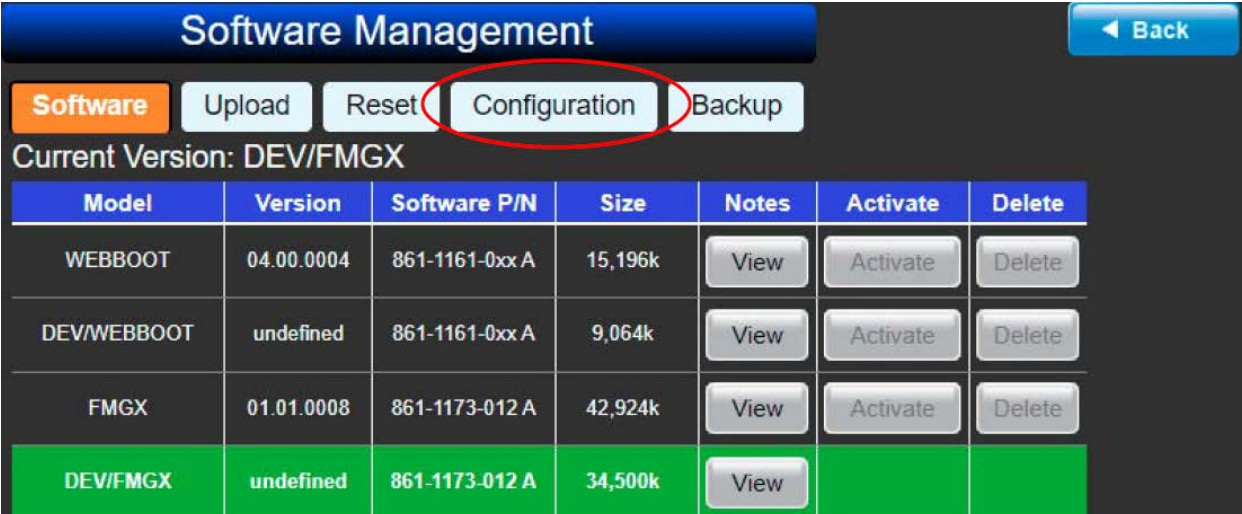
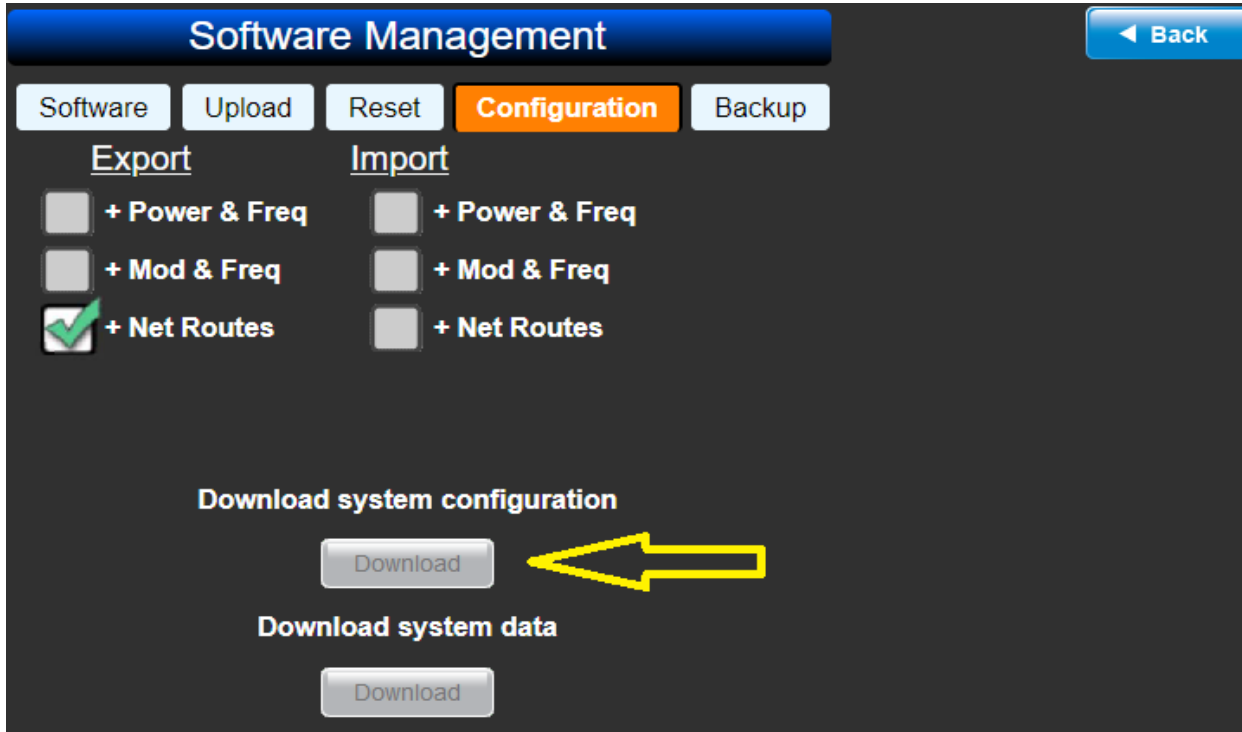

Figure 6-1 GX GUI ISP Screen
Figure 6-2 Export/Import Screen
- STEP 2** Open a web browser and establish a connection, once there is a connection, navigate from the HOME page select the *Menu button* and then to the *Setup >> Update* button to open the Software Management main screen shown in Figure 6-1.
- STEP 3 Click on the **Configuration** button circled in Figure 6-1 to open the it's sub-menu screen, *Export/Import* in Figure 6-2.
- STEP 4 Check the box: **Export +Net Routes** circled in Figure 6-2 and then click the *Download System Configuration* button. The file will be downloaded and in your download folder on the computer. Move it in a special folder for future retrieval.